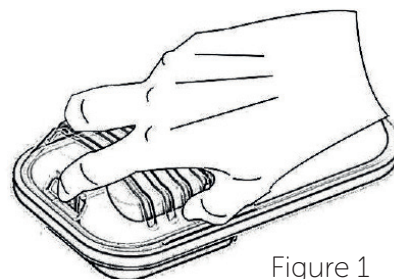

Figure 1
2. Press the hook in front of the light cover such as Figure 1 and remove the light cover.